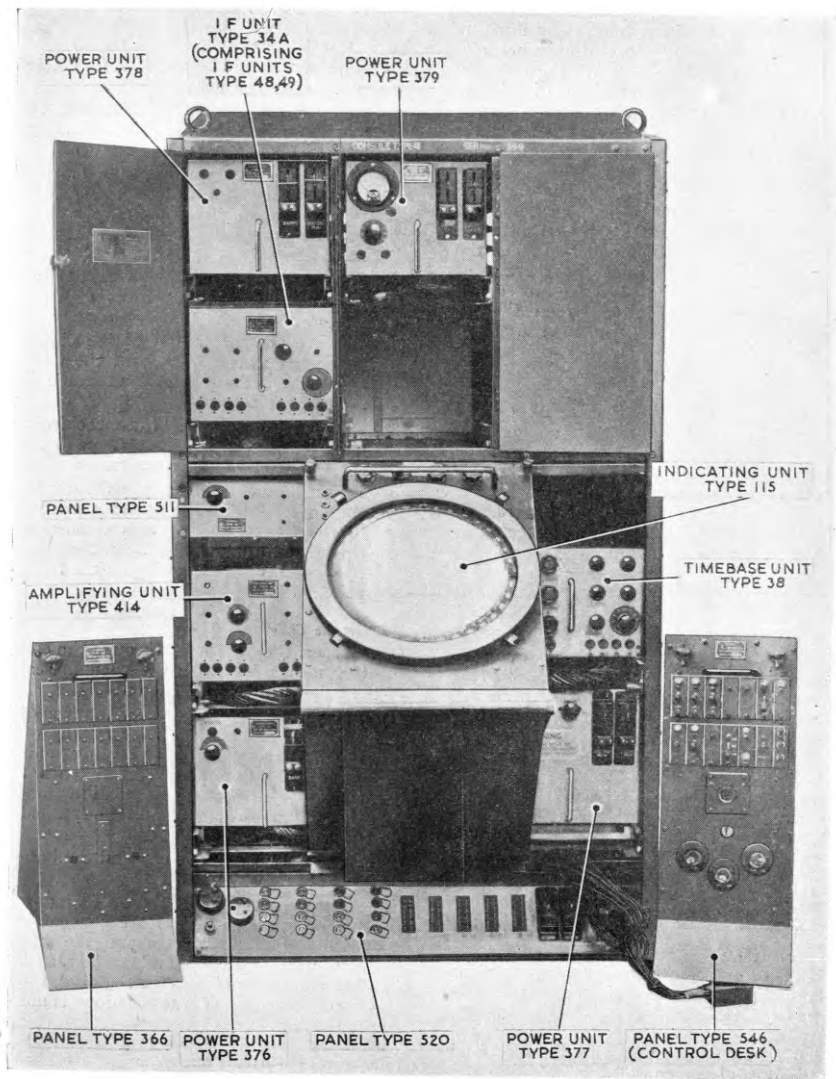
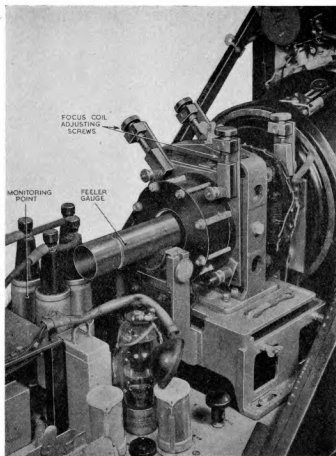

Fig. 28. Console No. 1 (Type 16C)
Fig. 32. Indicating unit Type 115: interior
96. Console 1 (console Type 16C) (*fig. 28*) provides :—
- (1) Remove the HT fuses from power units Type 378 and 379. The right-hand fuse box in each power unit holds the HT fuses: in power unit Type 378, both fuses should be removed, whilst in power unit Type 379, only the 500mA fuse should be removed (*fig. 28 or 29*).
- (2) Switch on the console with the control desk ON-OFF switch, and wait for 30 seconds.
- (3) Turn the BRIGHTNESS control (indicating unit Type 115 front panel) until an unfocused spot appears in the centre of the CRT. Mark the position of the spot on the screen.
- (4) Switch off the console and replace the fuse in power unit Type 379. Be careful to fit the fuse carrier the right way up as it is possible to interchange the fuses.
- (5) Switch on the console and adjust the focus coil using the two screws (*fig. 32*). The adjustment must be made so that as the FOCUS control is rotated backwards and forwards, the spot expands and contracts about a fixed point on the screen. This point will be near to that marked in (3).
- (6) Adjust the FOCUS control to give a sharply focused spot and switch off.
operation is controlled by a switch on panel Type 511 (*fig. 28 or 29*) which has four positions, viz. :—L.P.O.—T11—T13—T14.
- (1) Replace the X and Y links in the shift circuit (*para. 106*).
- (2) Replace the fuses in power unit Type 378, and switch on the console.
- (3) If the start of the time-base trace is well off centre, it will be necessary to reverse one or both of the links X and Y. Bring the start of the trace to the geometrical centre of the tube (the station position indicated by the grid lines on the window) using the X SHIFT and Y SHIFT controls.
- (4) Monitor the cathode current of stabilizer valve V3 in power unit Type 379. To do this, set the METER switch on power unit Type 379 to position 11 and insert one end of the monitoring lead into the meter socket; insert the other end of the lead into socket V3C of power unit Type 378. The meter reading should be 0.4mA. If it is not, withdraw power unit Type 378 and adjust the pre-set control just behind the front panel until the reading is correct. This operation should not be done until the equipment has been switched on for at least two minutes.
- (5) Turn the MOD AMP and SET LIMIT controls, at the left-hand rear of indicating unit Type 115, fully clockwise, and then turn them back a quarter turn.
- (6) Switch on the CAL key on the control desk.
- (7) Lower the right-hand control desk to expose timebase unit Type 38 (*fig. 28 or 29*) and adjust the SYNC control (top right knob) on that unit so that a steady trace appears on the indicating unit.
111. Three ranges are available. The general requirements of the equipment are for timebases corresponding to 30, 60 and 90 miles in length on ranges 1, 2 and 3 respectively. The required range is selected with the RANGE key on the control desk (*fig. 28 or 29*). The timebases are adjusted by means of the VELO, LIN and RANGE potentiometers on the front panel of time-base unit Type 38. There are three controls for each range.
115. Connect the output from the cathode of V3 in indicating unit Type 115 to the Y-plate of an oscilloscope Type 10 and a picture of noise and signals should be displayed. A convenient monitoring point is the metal can of either of the two high-voltage condensers at the right of the CRT (fig. 32).